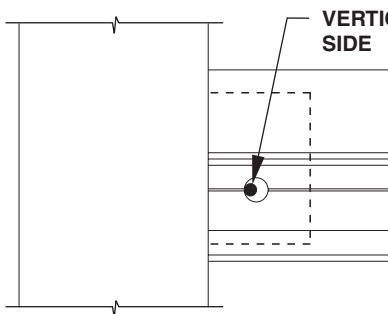

FIGURE 1
2. Drill 1/4" diameter weep holes at 1/4 points of lite opening. (Figure 1)